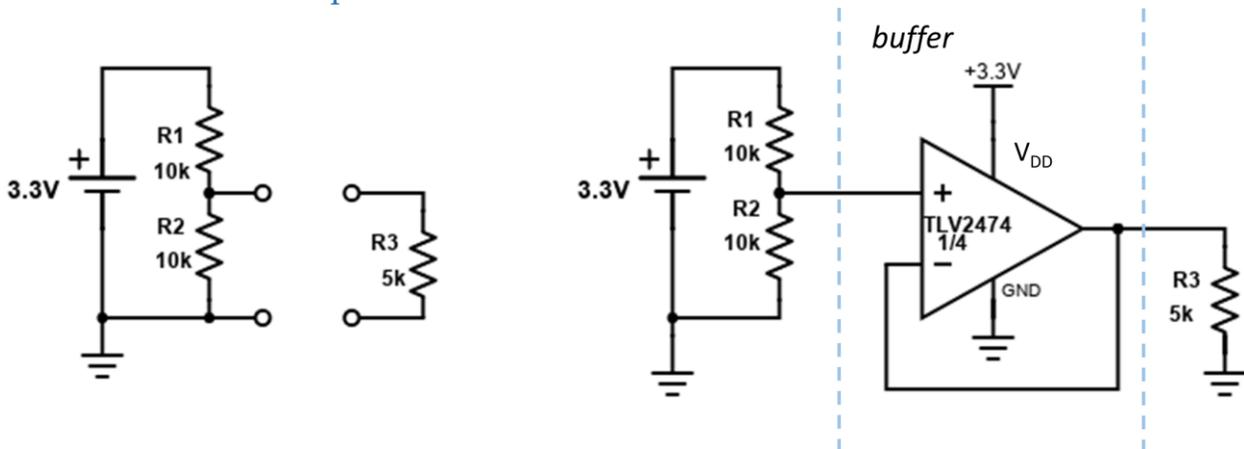

Figure 5. Rail-splitter without (left) and with (right) op-amp buffer.
Here is a classic op-amp application – the **buffer** (aka the **voltage follower**). Here you will explore its application. First, build the voltage divider section of the circuit on Figure 5, left (just with 3.3V and GND, R1 and R2). What is the output voltage supposed to be? Of course, we’re splitting it in half! This will be useful later when we need to establish a mid-point in our range of 0 to 3.3V.
- c. Op-amps to the rescue! Here we will build an op-amp buffer! ☺ Note the negative feedback pathway connecting the output back to the inverting input. The purpose of the op-amp here is to block any current flow, prevent current from siphoning off of  $R_2$ , whilst still outputting 1.65V, regardless of what you plug in downstream. Build the circuit in Figure 5, right. Measure the output at op-amp output with  $R_3$  plugged in. Is it 1.65V (or very close to that value)? What if you plug in other values for  $R_3$ , do you still get an output of 1.65V. Try a few different values for  $R_3$  to find the answer.